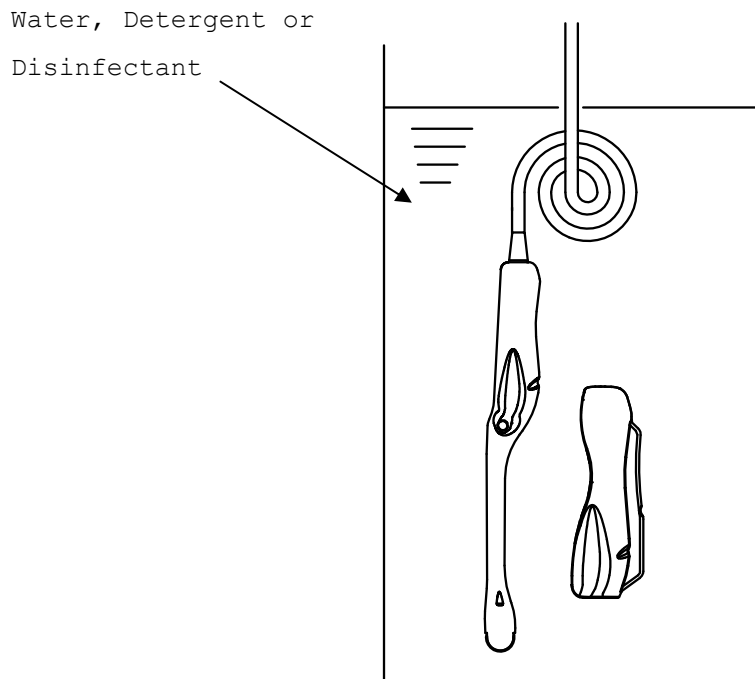

Fig.11 Immersion of the Probe and the Magnetic sensor attachment
- 2) Immerse the immersible part of the probe without connector into the diluted detergent solution (see Figure 11). Wipe the immersible part of the probe under the surface of the detergent solution with a soft cloth to remove all visible soil. Be sure that all grooves of the probe are implemented during the cleaning process.
(alternatively: immerse the immersible part of the probe in a tray filled with deionized water/tap water (see Fig.11) for 5 min.)
- 4) Rinse the Magnetic sensor attachment with running tap water for 1 minute. (alternatively: immerse it in a tray filled with deionized water/tap water (see Fig.11) for 5 min.)
- 3) Immerse the immersible part of the probe into the disinfectant (see Fig. 11). Set a clock to insure the recommended contact time which is 5 minutes.
(alternatively: immerse the immersible part of the probe in a tray filled with deionized water (see Fig.11) for 5 min.)
- 2) Immerse the Magnetic sensor attachment into the disinfectant (see Fig. 11). Set a clock to insure the recommended contact time which is 5 minutes.
- 3) Rinse the Magnetic sensor attachment with deionized water for 1 minute. (alternatively: immerse it in a tray filled with deionized water (see Fig.11) for 5 min.)